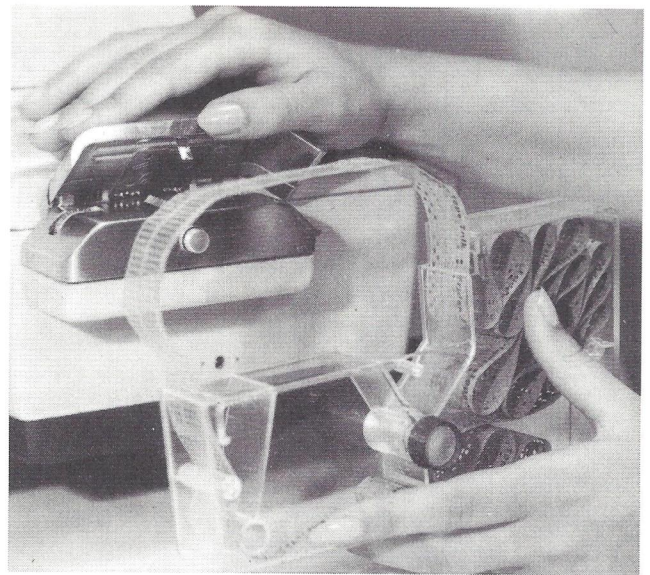

Figure 14.
1. Open the tape hold down arm on the reader by pushing the button (See figure 14).